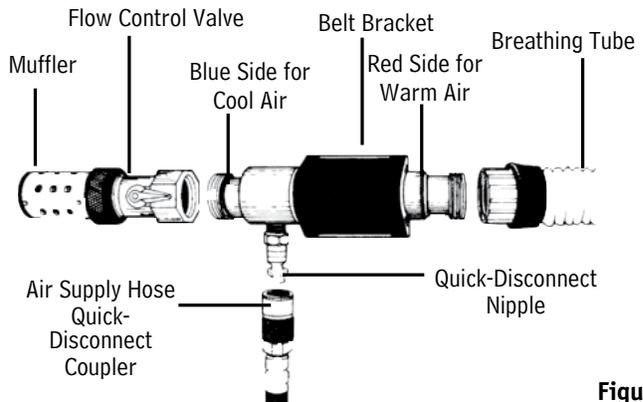

Figure 1
- In an uncontaminated atmosphere screw the hose connector fitting on the end of the breathing tube to the fitting on the AC1000. Tighten hose connectors firmly (**Figure 1**).
- To obtain cooler air, turn the air temperature control knob counterclockwise (**Figure 1**). Maximum cooling is attained when knob is fully open and when there is maximum airflow out of the AC1000 exhaust port.